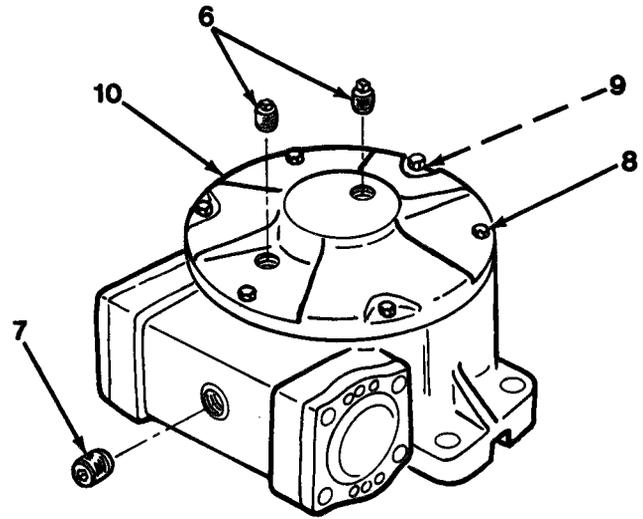
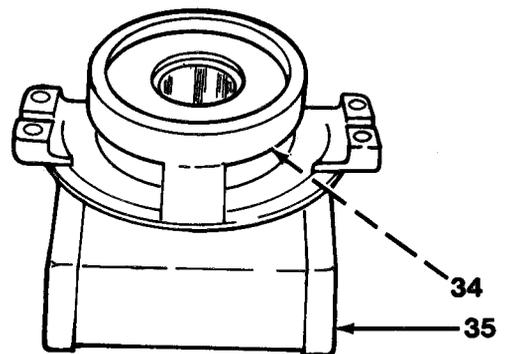

Figure 15-2
Figure 15-14
19. Install cover (10), six lockwashers (9) and capscrews (8, Figure 15-2). Torque capscrews 8) to 58 lb-ft (79 N•m).
20. Install two drain plugs (6) in cover (10).
21. With pinion up and swing gear box level, fill with gear oil per lubrication chart, or until oil runs out of fill level hole. Install fill pipe plug (7).
22. Grease bearings through zerk (34) located under pinion gear in housing (35, Figure 15-14).